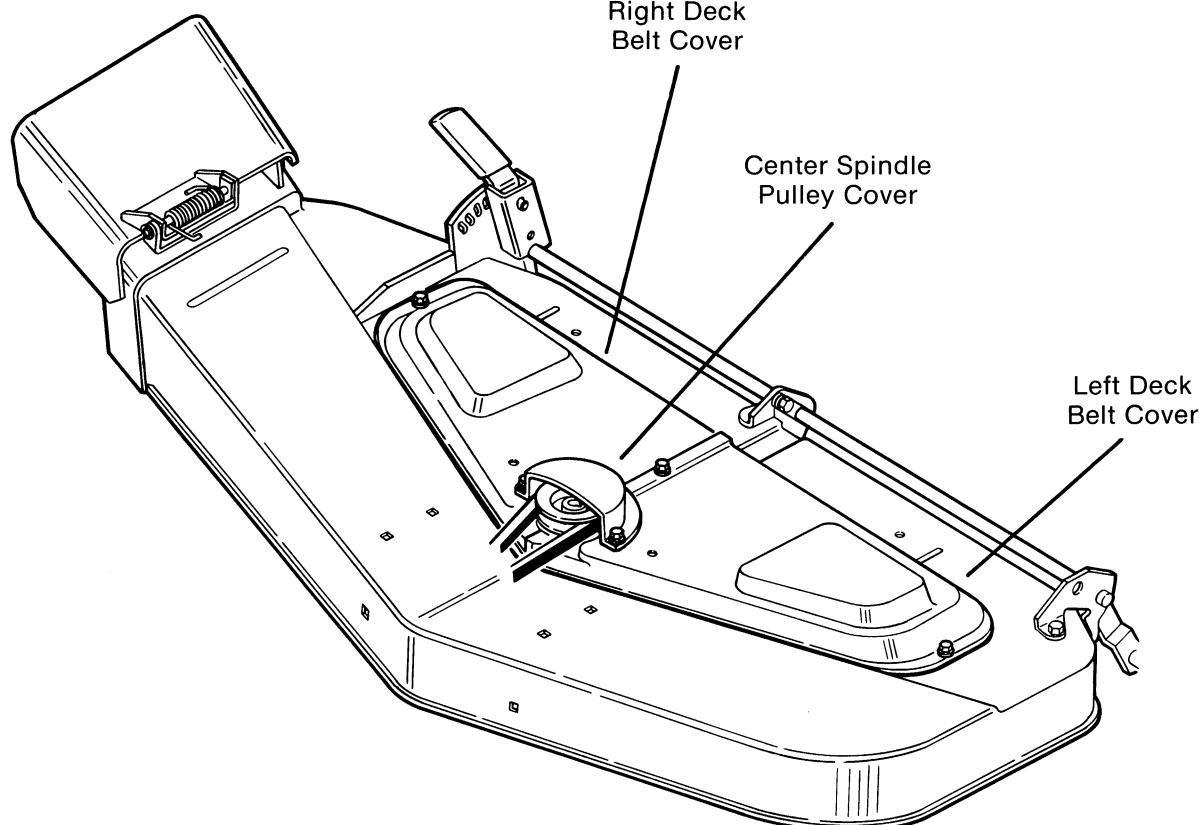

FIG. 18
- D. Remove cover from center spindle pulley, (Fig. 18) by removing three capscrews and lockwashers.
- G. Reinstall cover over center spindle pulley and secure with hardware removed in step "D". (Fig. 18)
- B. Remove cover from center spindle pulley, (Fig. 18) by removing three capscrews and lockwashers.
- C. Remove left main deck belt cover by removing five capscrews and lockwashers. (Fig. 18)
- B. Remove center spindle pulley cover and right and left main deck covers. (Fig. 18)
- J. Reinstall right and left main deck covers then center spindle pulley cover. (Fig. 18)
B. Remove center spindle pulley cover and right and left main deck covers. (Fig. 18)